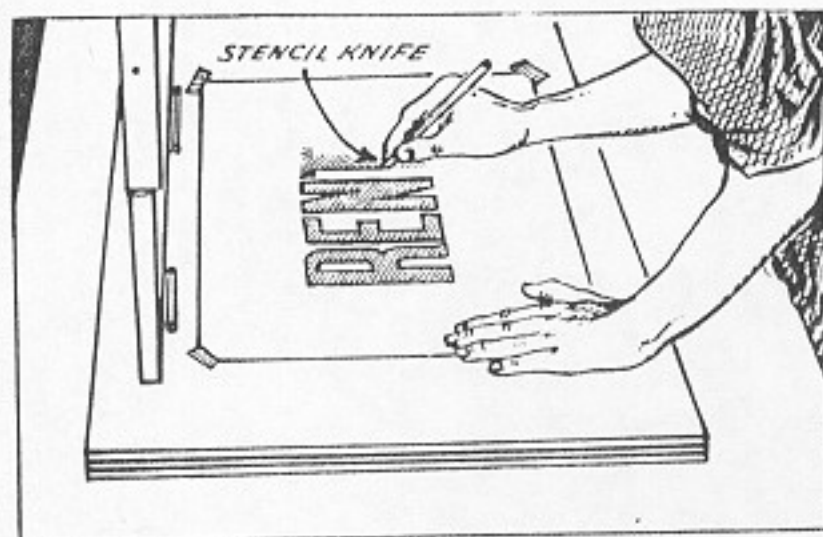

Fig. 75. Cutting the Stencil
3. Trace-cut the lettering with the stencil knife. Follow the edge of the lettering or design carefully, for any mistakes will be reproduced, Fig. 75. Allow the letters to remain in place after the paper is cut through.